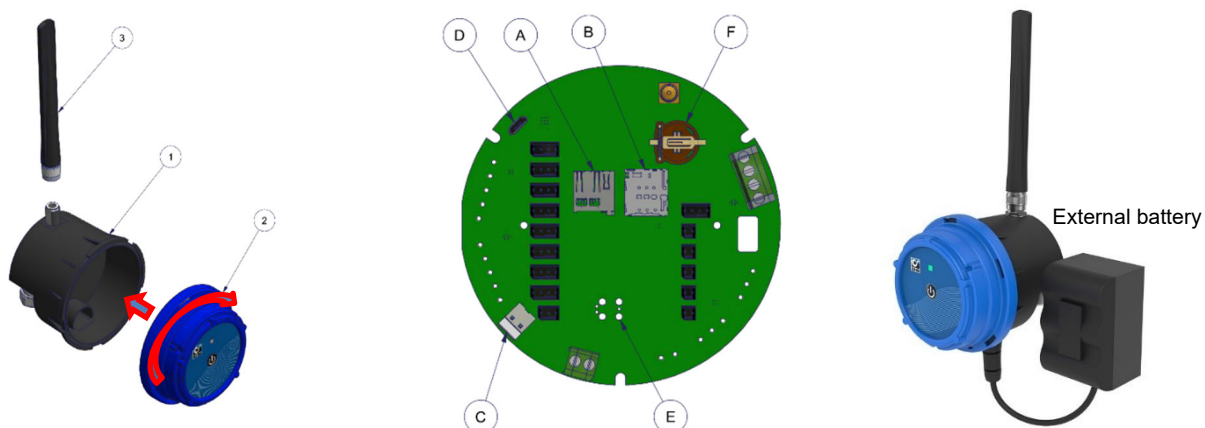

Figure 3 Body (1) and head (2) assembly
1. Connect the antenna (3) to the product (if present) (1).
2. Insert the SIM card in the base (if present) (B).
4. Close the body (1) by rotating the head (2), see Figure 3 below.  **Do not force closure!** If the two parts of the housing cannot be fit together properly, make sure there is no pinched cable or dust.